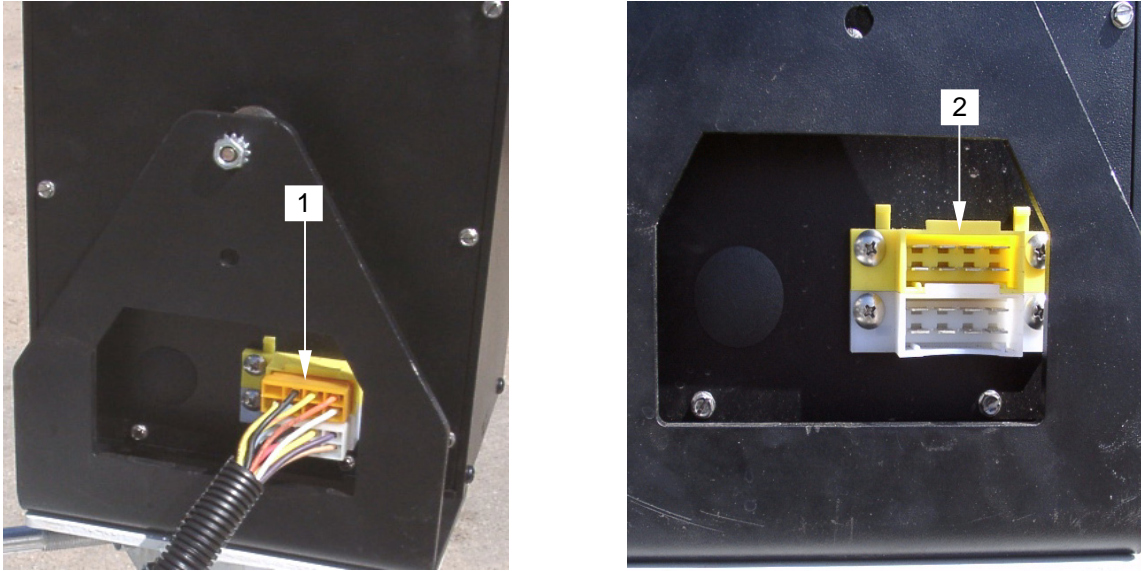

Figure 2. Control Panel External Harness Connection
1. Disconnect the orange and white external wire harness (**figure 2, item 1**) from the connector (**figure 2, item 2**) at the rear of the control panel.